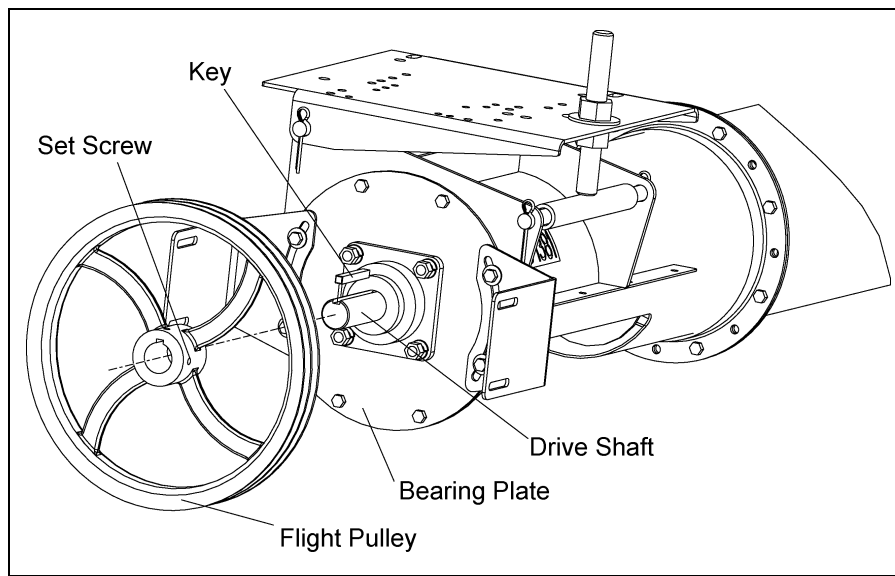

Figure 40
- C. Once the pulley is appropriately positioned, tighten the setscrew with a hex head wrench to secure it to the drive shaft. (See Figure 40)